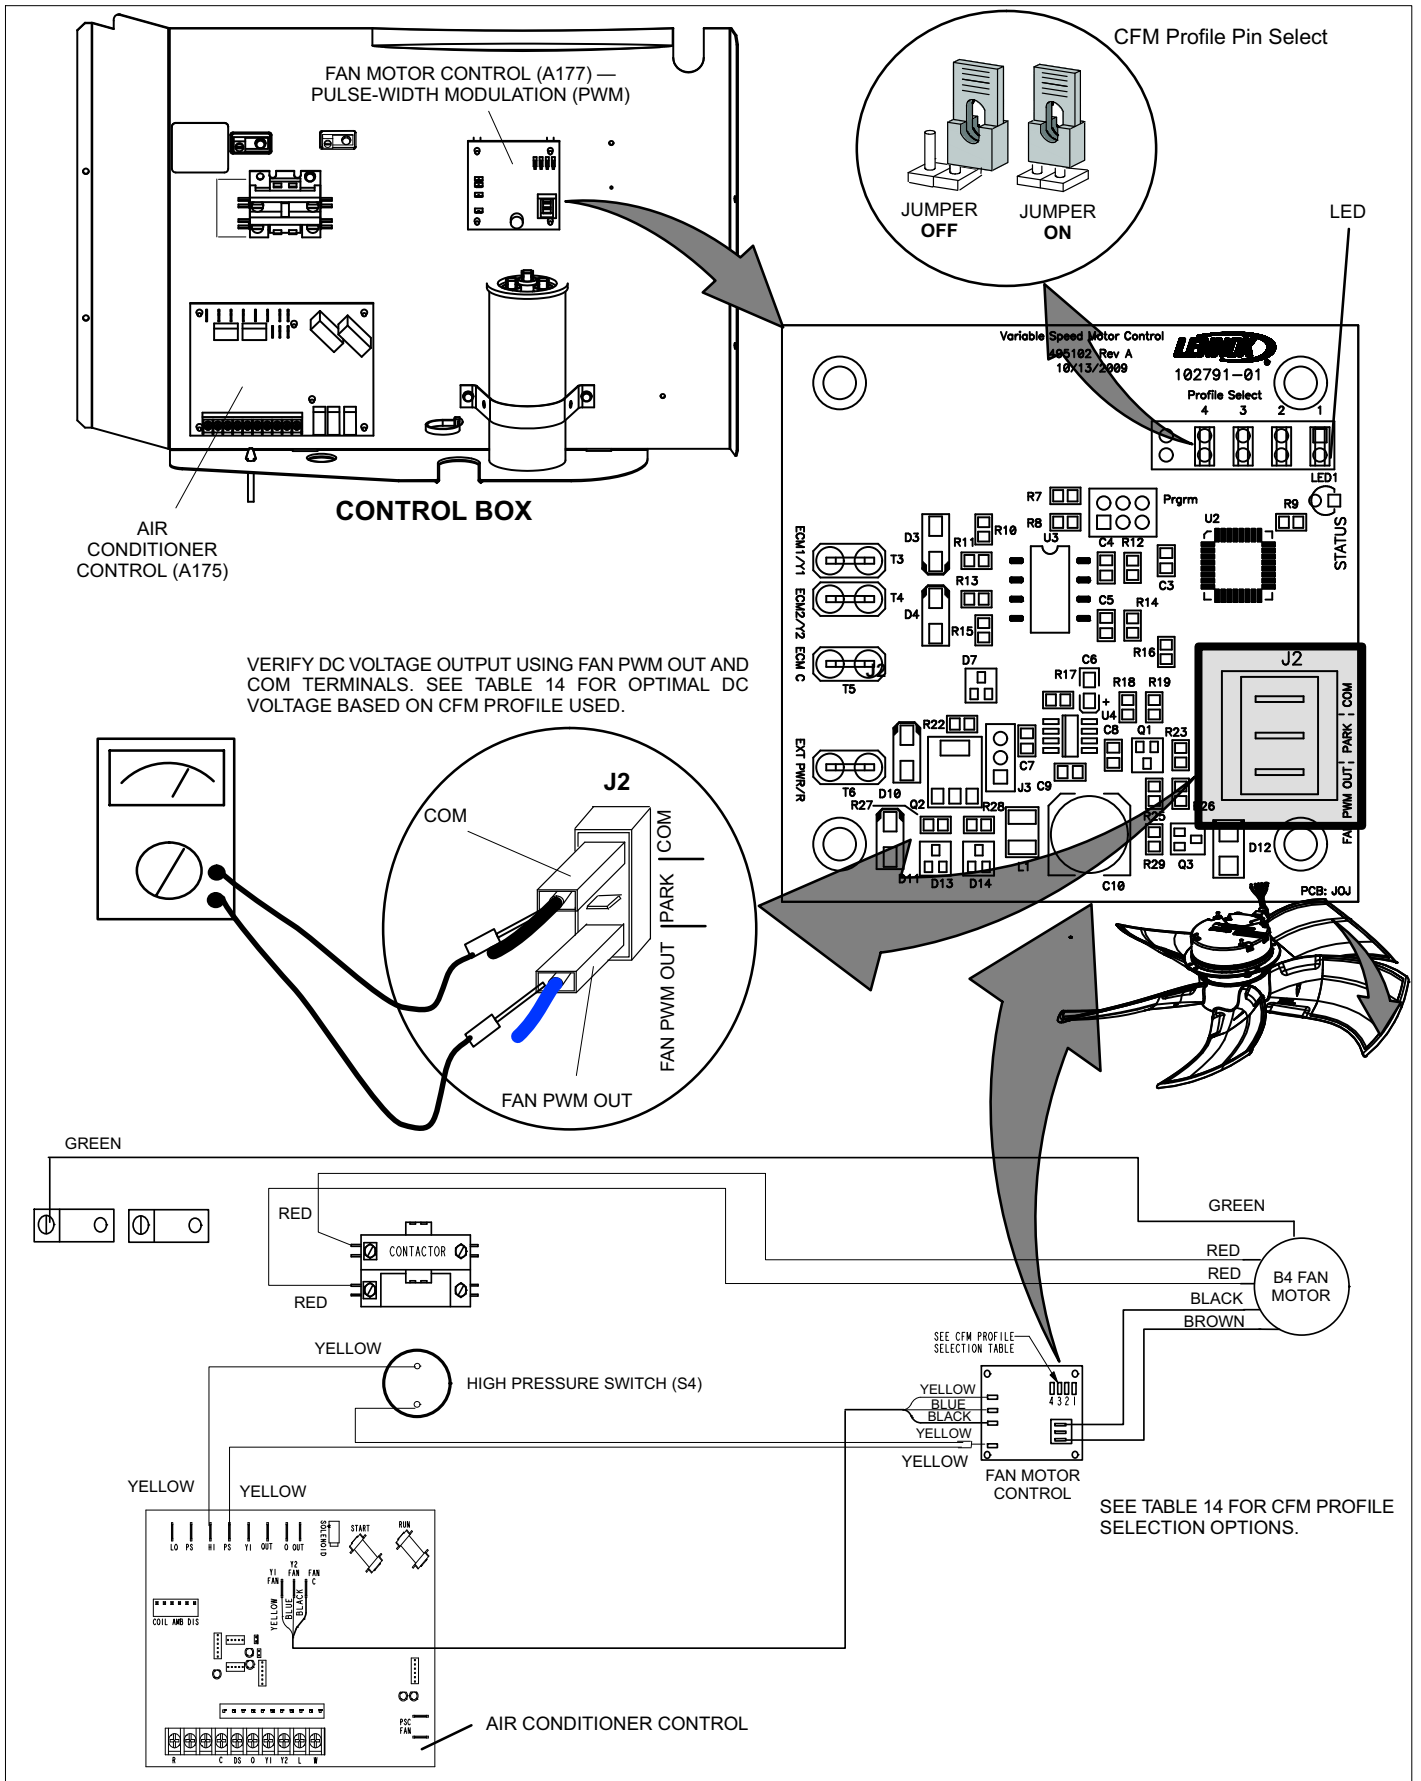

Figure 24. Fan Motor Control, Wiring, Jumper Settings, Testing and LED Location
3. Test DC voltage output on the fan motor control's J2 terminals (see figure 24) while the motor is under full load. The actual voltage tested should match the voltage listed in table 14 for the specific unit.